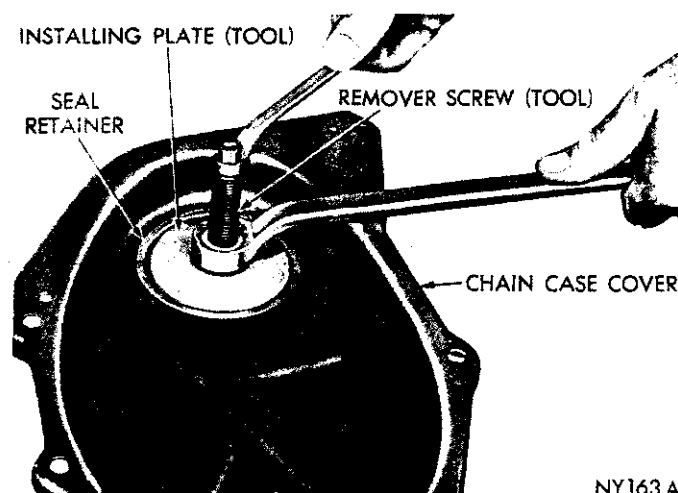

Fig. 26—Installing New Seal
(8) Install flat washer and nut on the remover screw; hold screw and tighten nut (Fig. 26).
(9) Seal is properly installed when the neoprene is